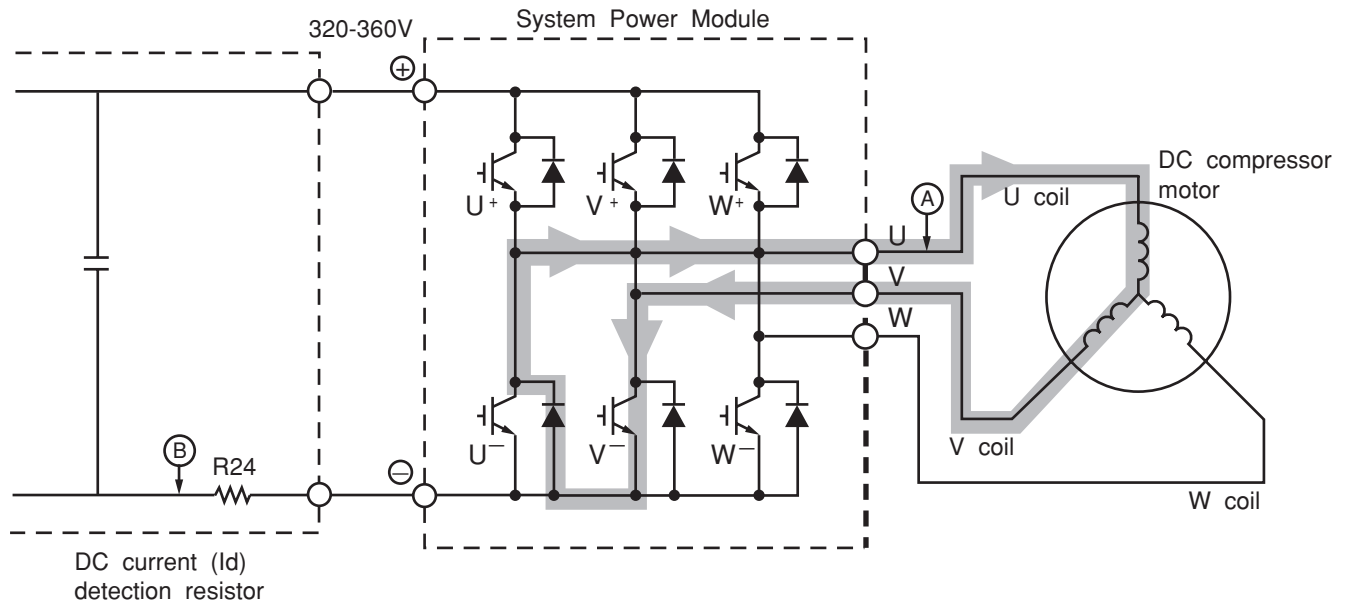

Fig. 3-4 System Power module circuit (U⁺ is OFF, V⁻ is ON)
※ At point F: U⁺ is chopped (OFF), V⁻ is ON (circuit in Fig. 3-4)
- (2) When U⁺ transistor is OFF: (by inductance of motor coil) U coil → V coil → V⁻ transistor → Return diode → Point ① (Fig. 3-4)